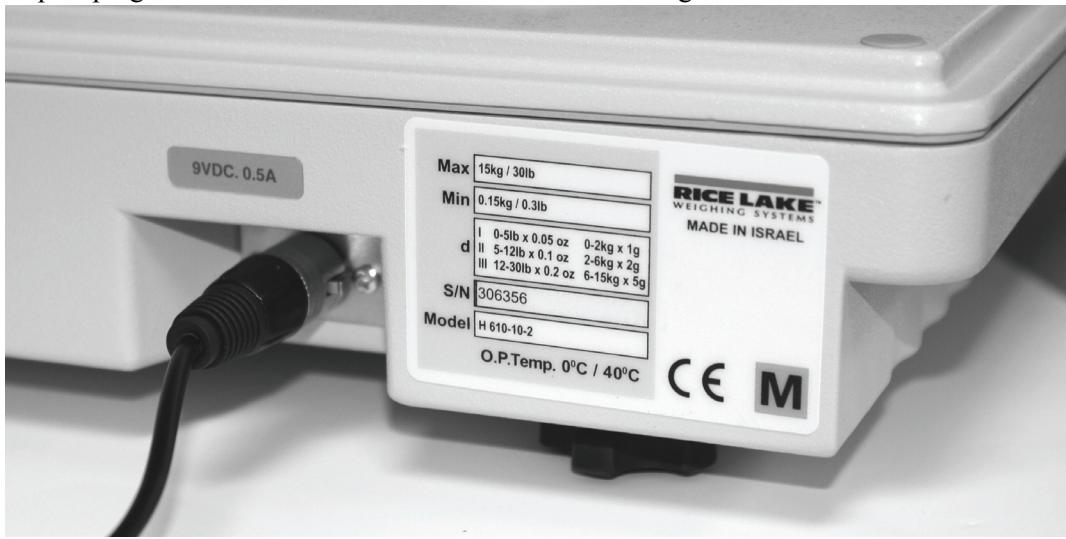

Figure 3. AC Power Connection Site
The Healthweigh neonatal scale has a 120VAC or 230VAC adaptor to use when power is not readily available. The AC power adaptor plugs into the back of the indicator as shown in Figure 3.
1. To operate the unit using the AC adaptor, plug the AC adaptor cable into the back of the scale as shown in Figure 3, and the AC adaptor plug into a power source.